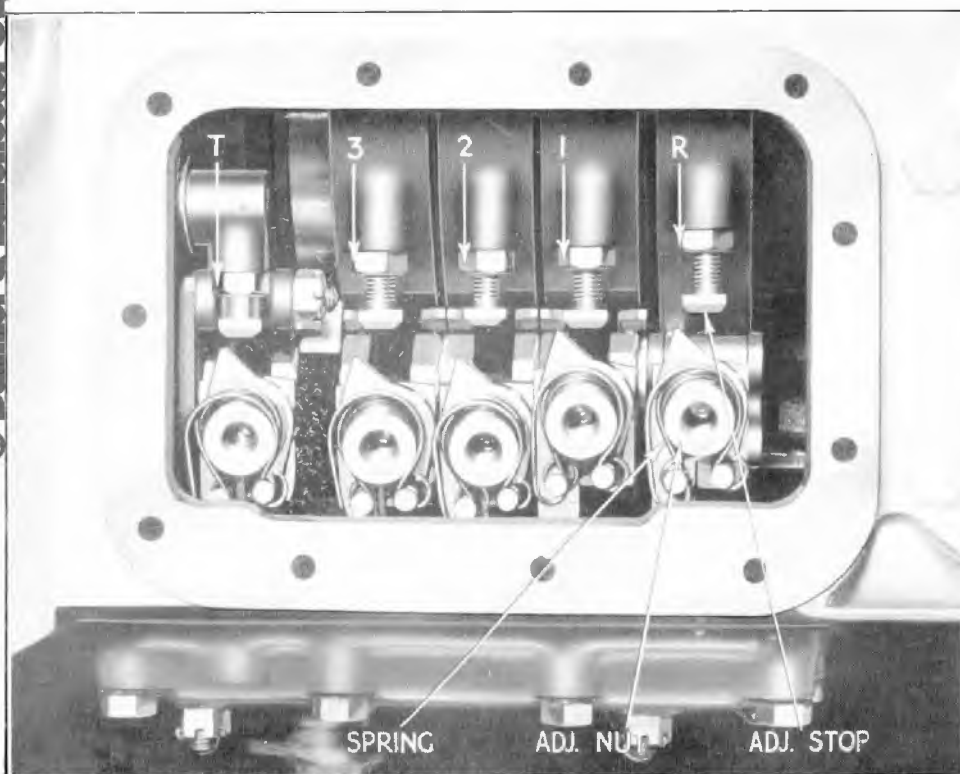

Fig. 30
4. Remove the spring which is wound round the adjusting nut (Fig 30).
6. **Unscrew** the round adjuster nut of the gear to be adjusted one full turn (see Fig. 30).
7. Loosen the locknut of the adjuster stop and screw in the adjuster screw half a turn. Tighten locknut (see Fig. 30).